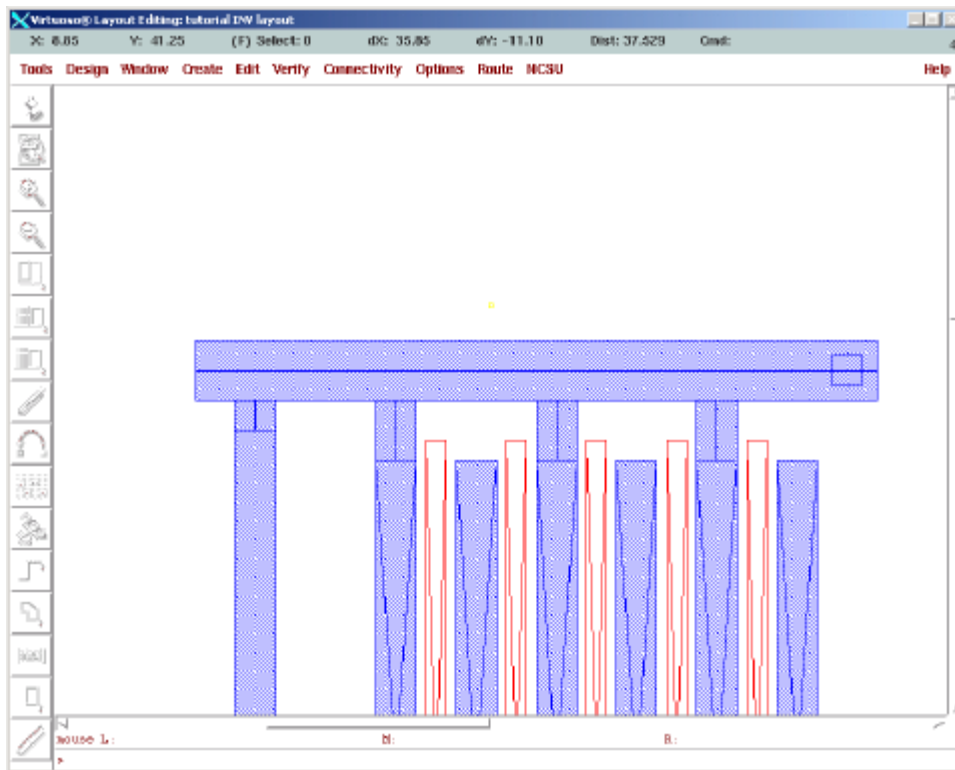

Figure 79: Connect Sources of the PMOS Transistor and the ptap. Figure 79.
2. Create paths of 1.2 μ m wide connecting the ntap and every other S/D of the PMOS transistor as in Figure 79. Note: For all layers except metal1 have been turned off.